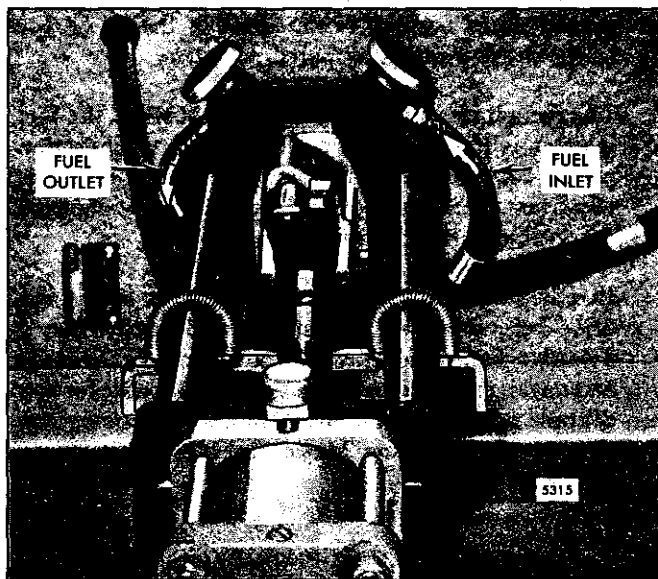

Fig. 8 - Position of Calibrator Fuel Flow Pipes
1. Before testing injector output, be sure calibrator test oil is supplied to the injector fitting located over the rack. To change the flow from the calibrator, exchange the positions of the braided and the clear fuel lines (Fig. 8).